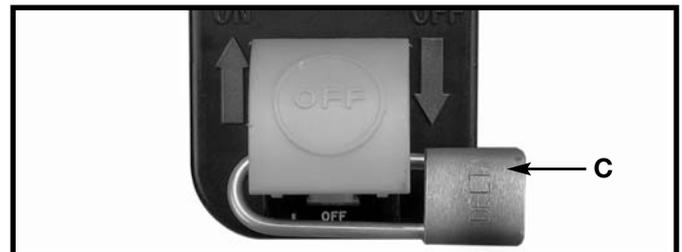

Fig. 44
IMPORTANT: When the machine is not in use, the switch should be locked in the "OFF" position to prevent unauthorized use, using a padlock (C) Fig. 44 with a 3/16" diameter shackle.